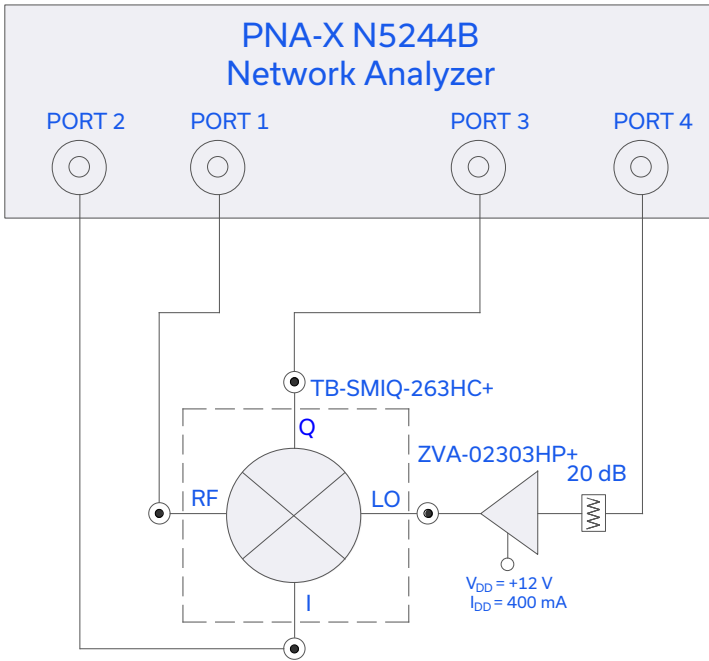

Figure 3. Block diagram of Test Circuit used for characterization of Image Rejection (Downconverter)
3. Level of undesired image signal below desired RF signal. See measurement block diagram Figure 3.